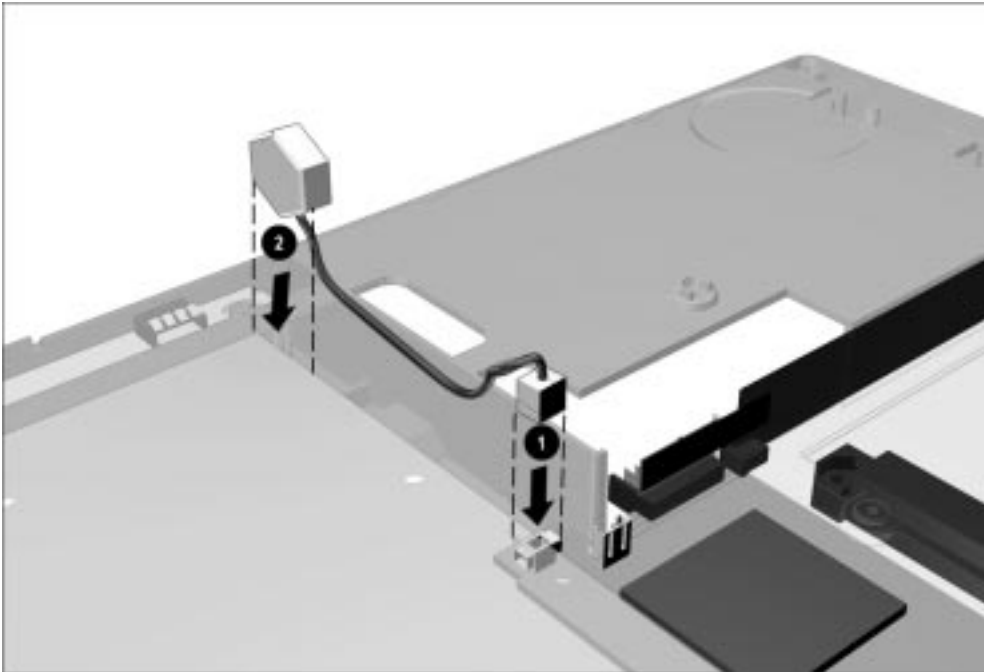

Figure 5-28. Installing the RTC Battery
When installing the RTC battery, connect the battery to the system board ❶, route the cable as illustrated in Figure 5-28, and then place the battery into the slot in the front of the base assembly ❷.